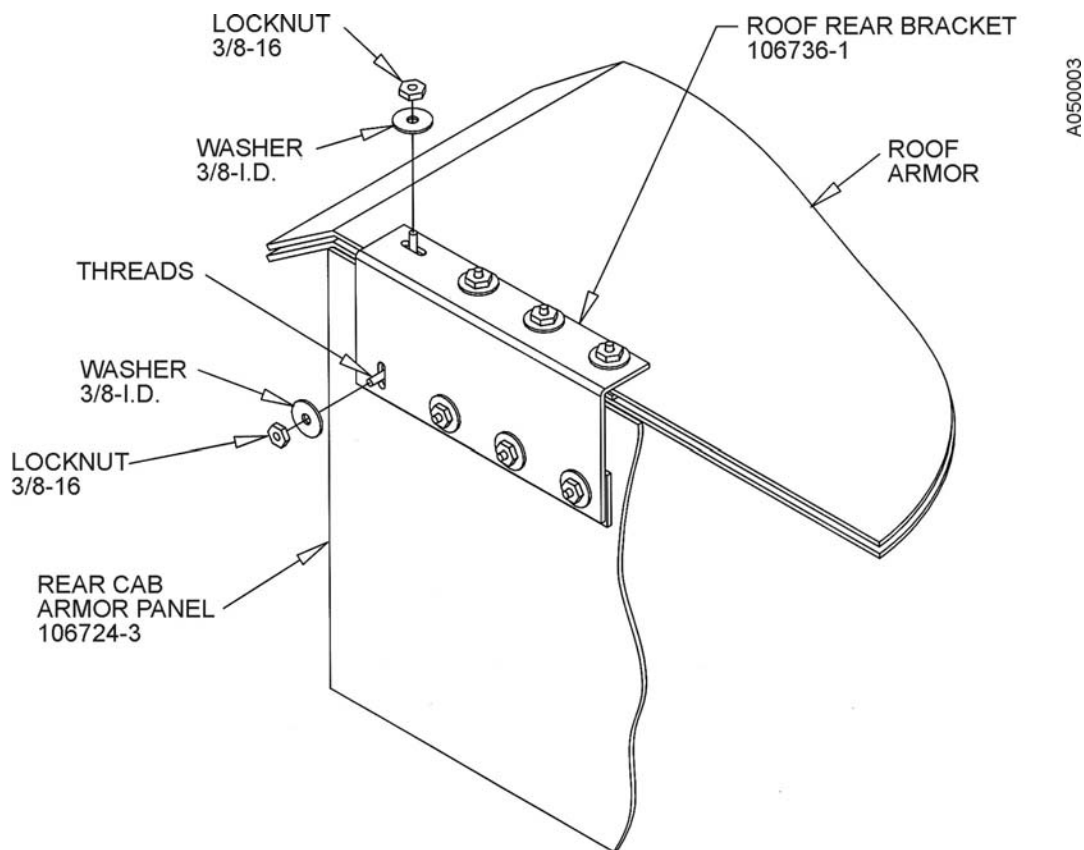

Figure 47. Position the Roof Armor Panel Rear Bracket.
- s. Install the Roof Rear Bracket (P/N 106736-1) over the exposed studs of the Rear Studplate (P/N 106780-2) and over the four bolts with a shim through the Rear Cab Armor Panel (See Figure 47).